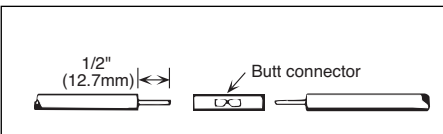

Figure 2
4. Insert supply wire and lead ends into butt connector and crimp (see Figures 2 and 3). Match colors of supply wires with colors of motor leads. Check lead connections by gently pulling on them.